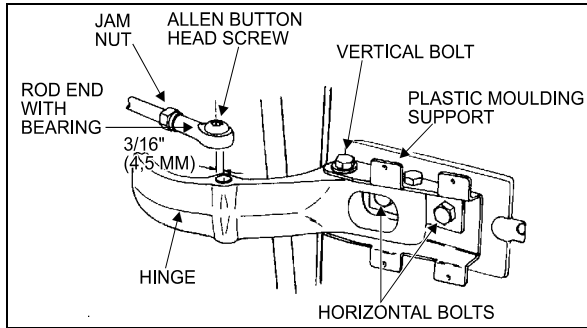

FIGURE 18: UPPER DOOR HINGE (COACH) 18058
2. Remove the Allen button head screw and the washer retaining the rod end with bearing to the upper hinge. See figure 18.
3. Remove the Allen button head screw and the washer retaining the ball and socket rod to the upper hinge. See figure 18.
3. Remove the Allen button head screw and the washer retaining the rod end with bearing to upper hinge. See figure 18.